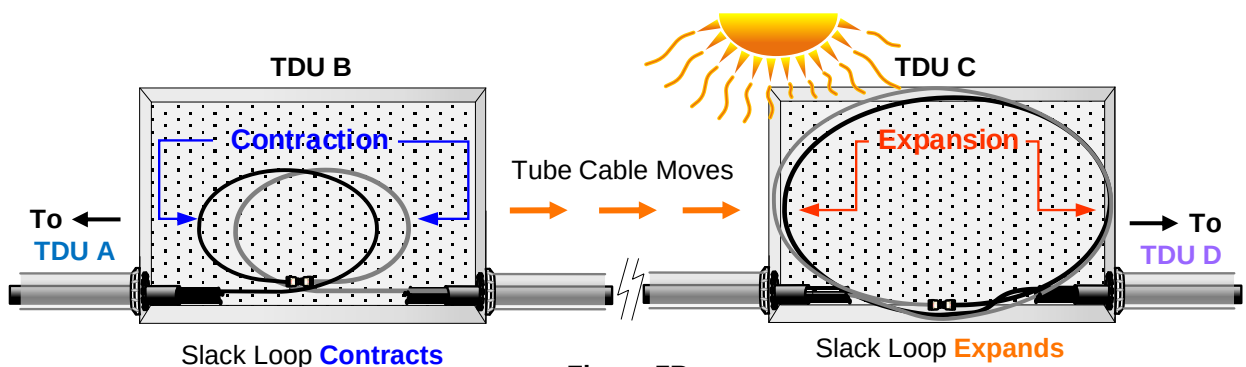

Figure 7B
10.7.6 **See Fig. 7B.** When the Tube Cable moves, the tubes / slack loops inside the TDUs will expand or contract avoiding damage to the Tube Cable and installed Fiber Bundles.